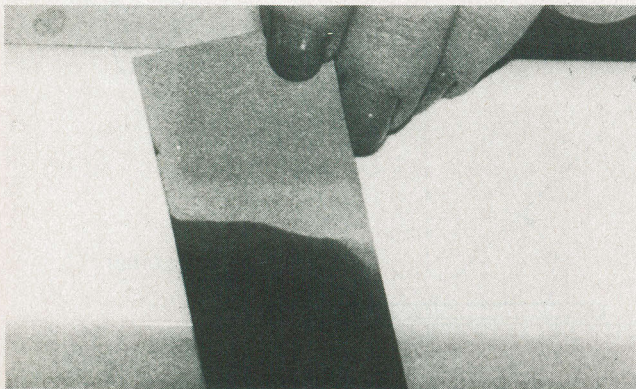

FIG. 12—TO TEST THE DEVELOPER, follow the directions in the text. If it is good, it should turn the film completely opaque.
1. You can test the developer under ordinary light. Take a piece of film and put it in the tray of developer under room light. It should turn completely opaque in less than thirty seconds (see Fig. 12). If it doesn't, your developer is exhausted and you should mix a fresh batch.